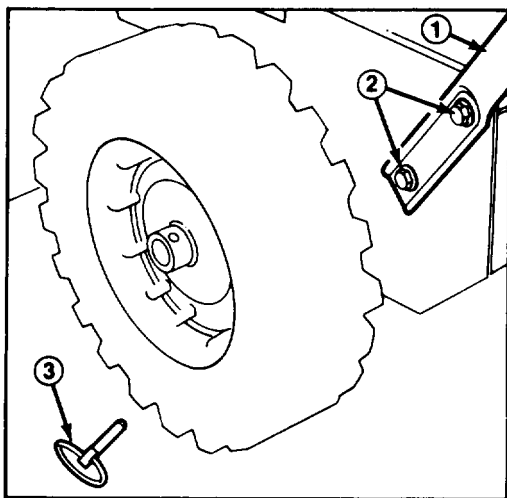

Figure 1
2. Position left handle on side of unit, align handle mount holes with holes in side plate, and secure with two capscrews and pyramidal washers until finger tight (Fig. 1). Repeat procedure on right side. Make sure handles are at same height (parallel) before tightening handle screws in both sides of unit.